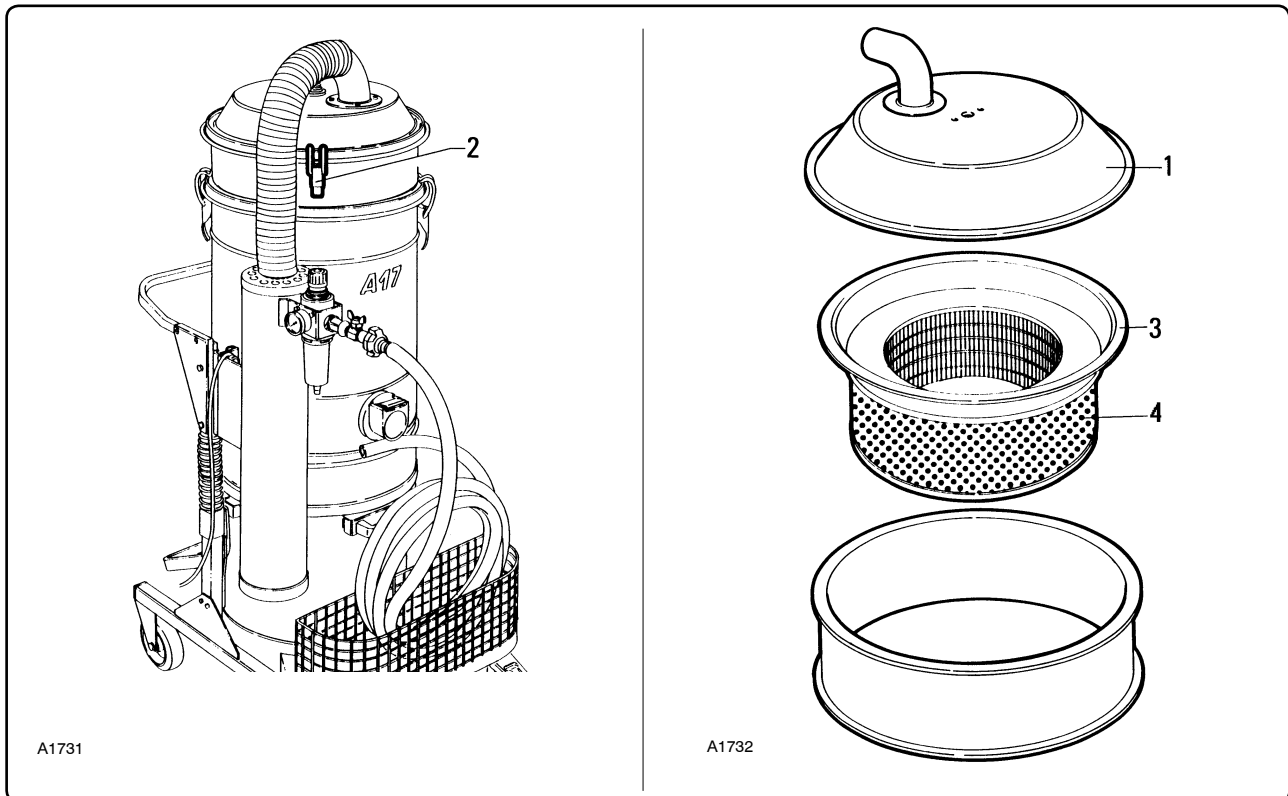

Fig. 7.5.6
7.5.4 - Replacing the absolute filter "K1" mounted on the intake fig. 7.5.6